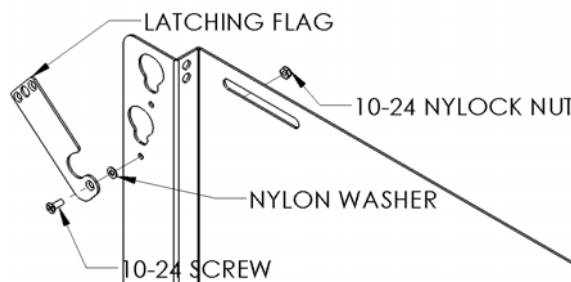

Figure 2
1. Attach latching flag to mount using the 10-24 undercut screw, nylon washer, and Nylock nut (see Figure 2). Tighten until friction will hold the flag in place.